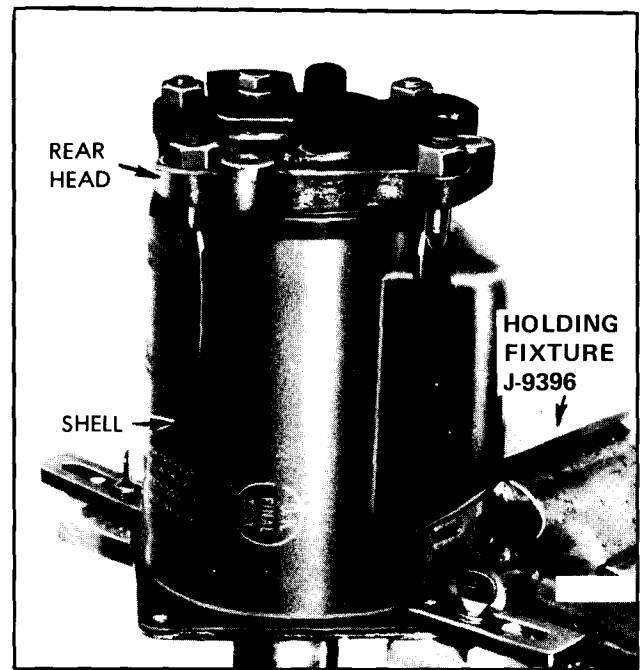

Figure 63—Compressor Installed in Holding Fixture
3. Invert compressor and Holding Fixture J-9396 with front end of compressor shaft facing downward. (figure 63).
4. Remove four locknuts from threaded studs on compressor shell and remove rear head. Tap uniformly around rear head if head is binding. (figure 63).